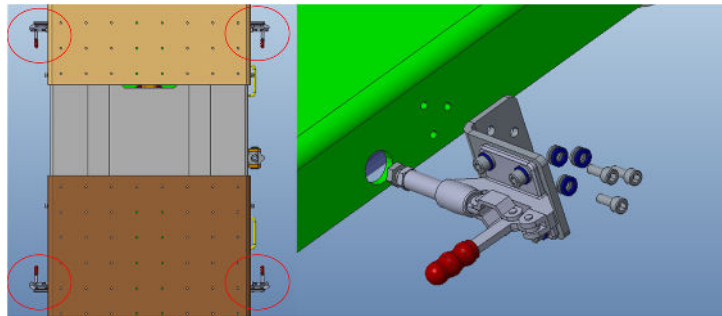

Fig.7.1.8 Clamp Bracket Assembly
G. Complete the Clamp Bracket Assembly (4 pcs) assembly (Fig.7.1.8).